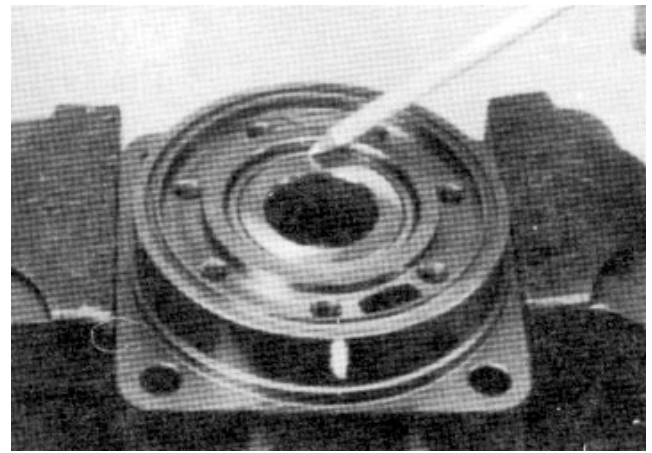
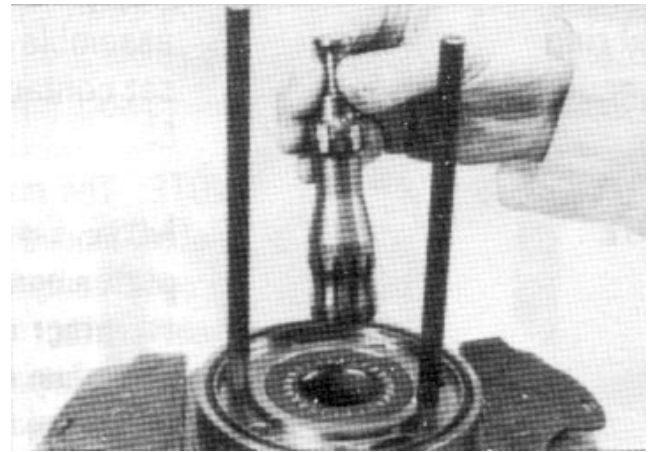

Figure 43
Figure 44
**Note:** Coupling shaft (11) should be approximately 0.10 inch (2.54 mm) below the housing wear plate surface to allow the assembly of thrust bearing (12). The coupling shaft must rotate smoothly on the thrust bearing (9) and thrust washer (8) (Fig. 43).
7. Make sure that a generous amount of clean corrosion resistant grease has been applied to the outer bearing (2). Install the coupling shaft (11) into housing (3), and seat shaft against the second thrust washer (8).
8. Install thrust bearing (12) onto the end of coupling shaft (11).
9. Apply a small amount of clean petroleum jelly to a new seal ring (5) and insert it into the housing (3) seal ring groove.
**Note:** One or two alignment studs screwed finger tight into housing (18) bolt holes, approximately 180 degrees apart, will facilitate the assembly and alignment of components as required in the following procedures. The studs can be made by cutting off the heads of 3/8–24 UNF 2A bolts so they are 0.5 inch (12.7 mm) or longer than cap screw (14).
**Note:** Use any alignment marks put on the coupling shaft (11) and drive link (13) before disassembly to assemble the drive link splines in their original position in the mating coupling shaft splines.
10. Install drive link (13) with the long splined end down into the coupling shaft (11). Engage the drive link splines so they mesh with the coupling shaft splines (Fig. 44).
11. Assemble wear plate (18) over the drive link (13) and alignment studs onto the housing (3).
12. Apply a small amount of clean petroleum jelly to a new seal ring (5) and assemble it into the seal ring groove on the wear plate side of the stator (21).
**Note:** The rotor set consists of the rotor (19), vanes (20), and stator (21). Rotor set components may become disassembled during service procedures. Do not service separately.
**Note:** It may be necessary to turn one alignment stud out of the housing (3) temporarily to assemble rotor set over the drive link (13).
**Note:** The rotor set rotor counterbore side must be down against wear plate for drive link clearance and to maintain the original rotor–drive link spline contact. A rotor set without a counterbore and that was not etched before disassembly can be reinstalled using the drive link spline pattern on the rotor splines if apparent, to determine which side was down. The rotor set seal ring groove faces toward the wear plate (18).
13. Install assembled rotor set onto wear plate (18) with rotor (19) counterbore and seal ring side down. The splines should mesh with the drive link (13) splines.
14. If disassembled rotor (19), stator (21), and vanes (20) cannot be readily assembled by hand, assemble with the following procedures:
A. Place stator (21) onto wear plate (18) with seal ring (5) side down. Be sure the seal ring is in place.